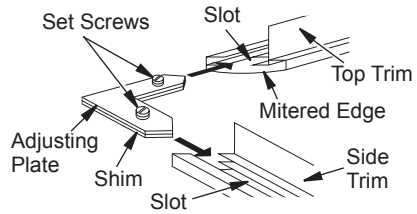

Figure 14 - Assembling Perimeter Trim
3. Align shim under adjusting plate as shown in Figure 14.
4. Slide one end of adjusting plate/shim in slot on mitered edge of top trim (see Figure 14).
5. Slide other end of adjusting plate/shim in slot on mitered edge of side trim (see Figure 14).